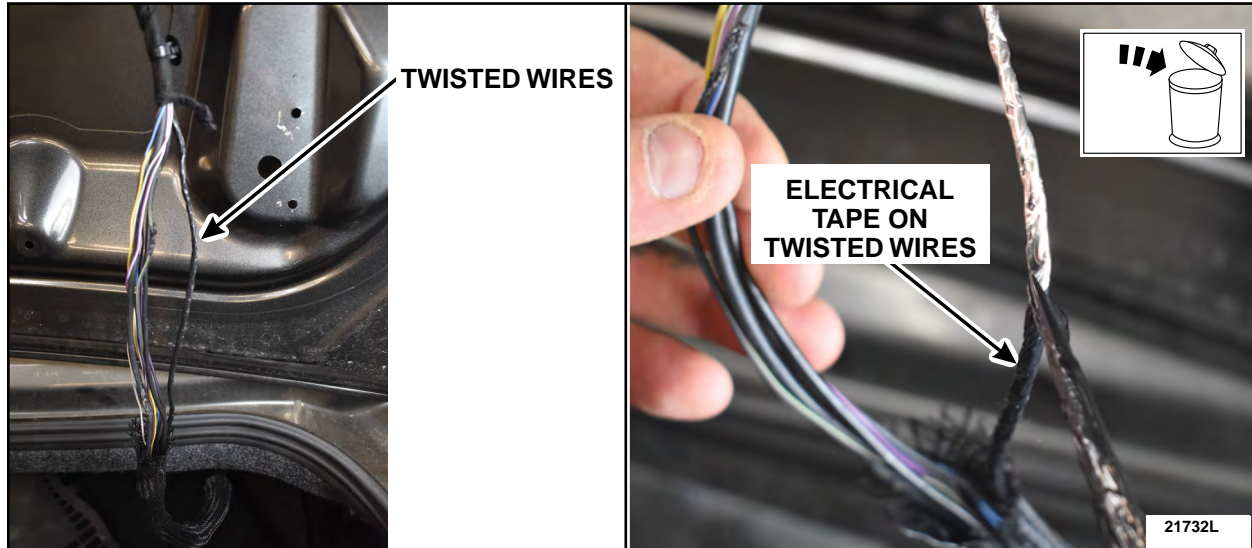

FIGURE 36
49. Remove the tape and discard the plastic tube. See Figure 36.